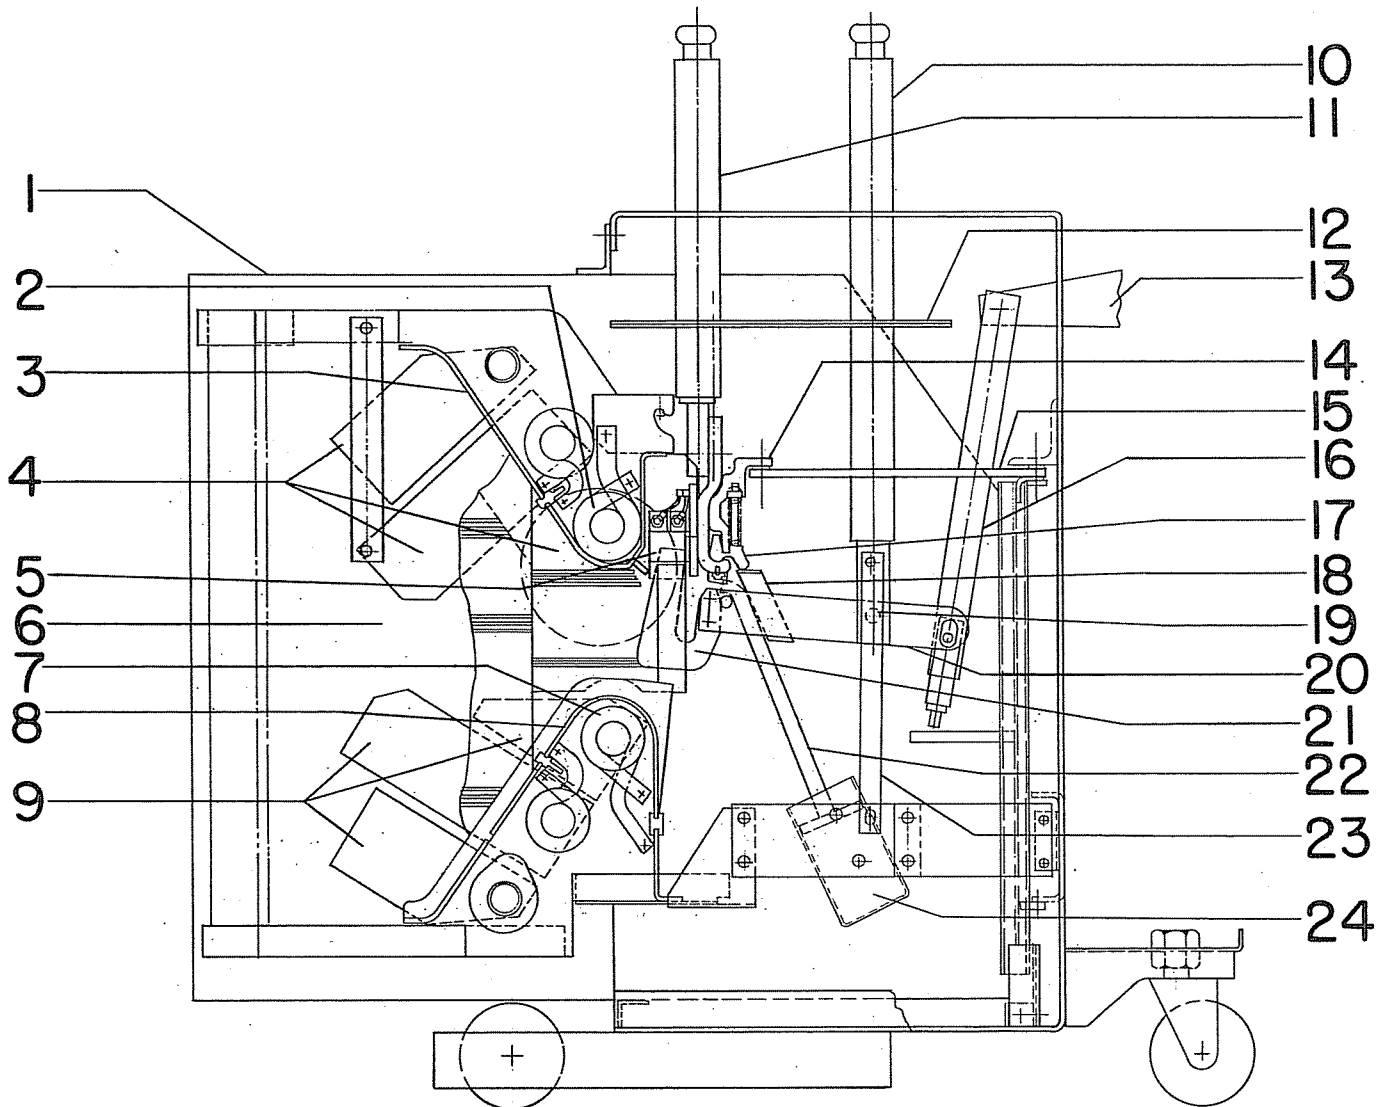

Figure 8 (0134C3584) Cross Section of Breaker Pole Unit
As the breaker opens to interrupt a current the arc first starts at the arcing contacts (5 & 21) Figure 8, transfers to the arc runner (3 & 8) and energizes the blow-out coils (2 & 7). This action introduces a magnetic field between the pole pieces (4 & 9) of the interrupter that forces the arc deeper into the arc chute (6). At the time the arcing contacts part a discharge of air is expelled through the booster tube (22) across the arc. This air flow assists the arc transfer and interruption by blowing the arc away from the contacts and into the arc chute. As the magnetic field forces the arc deeper into the interrupter along the diverging arc runners, the field is increased by the insertion of additional blow-out coils into the circuit.